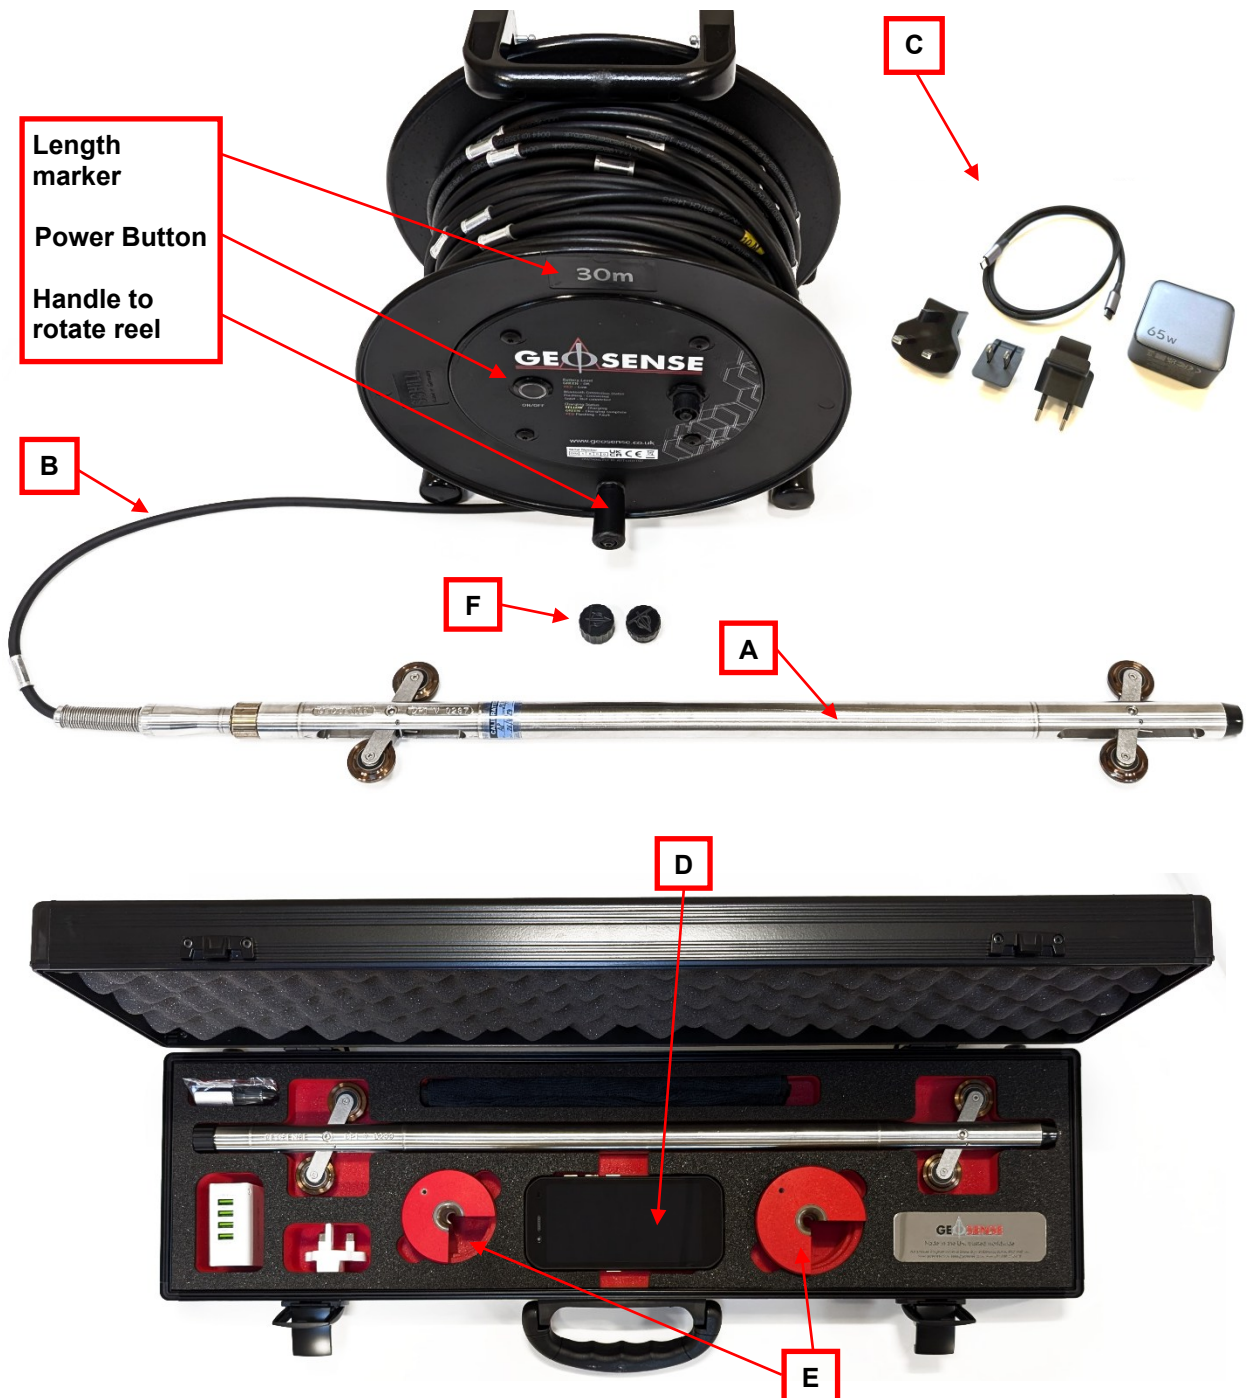

Figure 10: Inclinometer Components
Illustrated below (Figure 10: Inclinometer Components) are the components of the Geosense® Inclinometer and Readout System
- 5) Remove the probe from the hard case and remove the black cable connector cap (Item F - Figure 10: Inclinator Components)